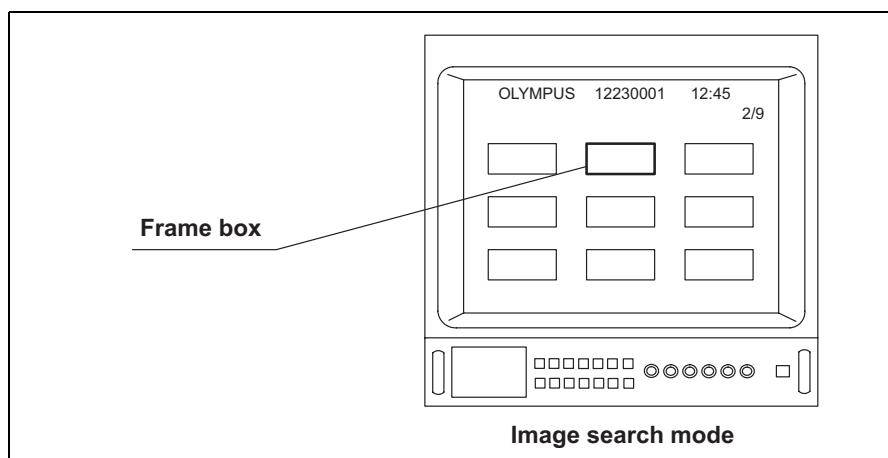

Figure 5.101
4. Depress the menu switches “◀” or “▶”, or the “↑/↓/←/→” key on the keyboard quickly to move the frame box to the desired image (see Figure 5.101).
4. Depress the menu switches “” or “”, or the “” key on the keyboard quickly to move the frame box to the desired image (see Figure 5.101).